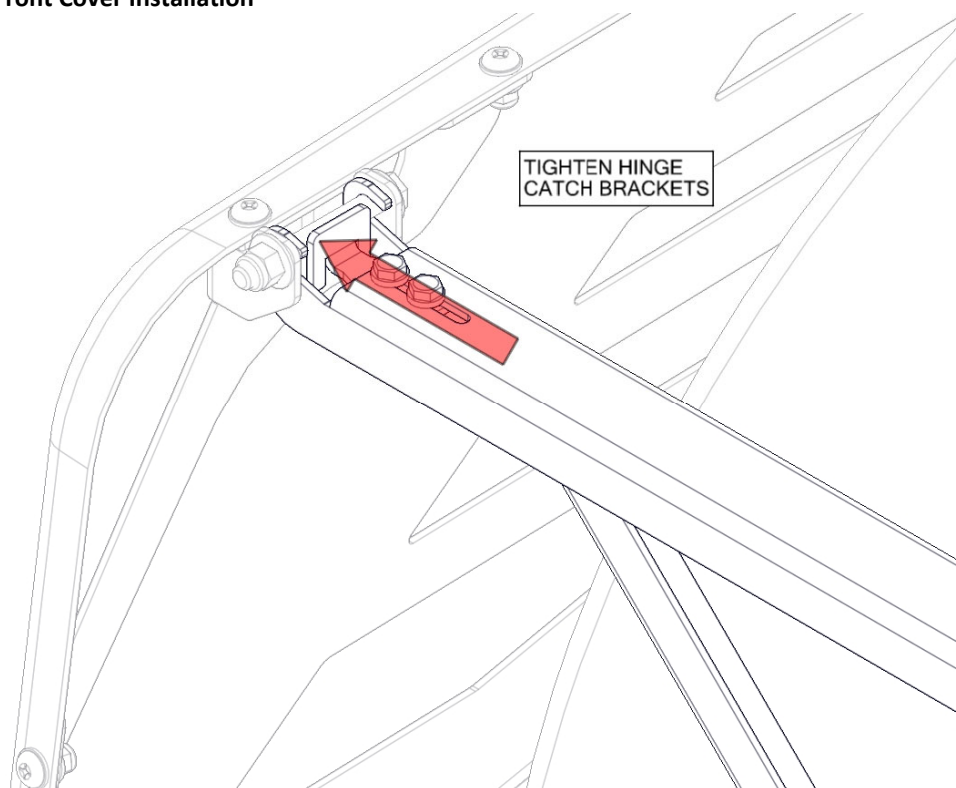

Figure 68 – Hinge Catch Bracket
- Tighten the hinge catch brackets to hold the cover hinges in place, Figure 68.